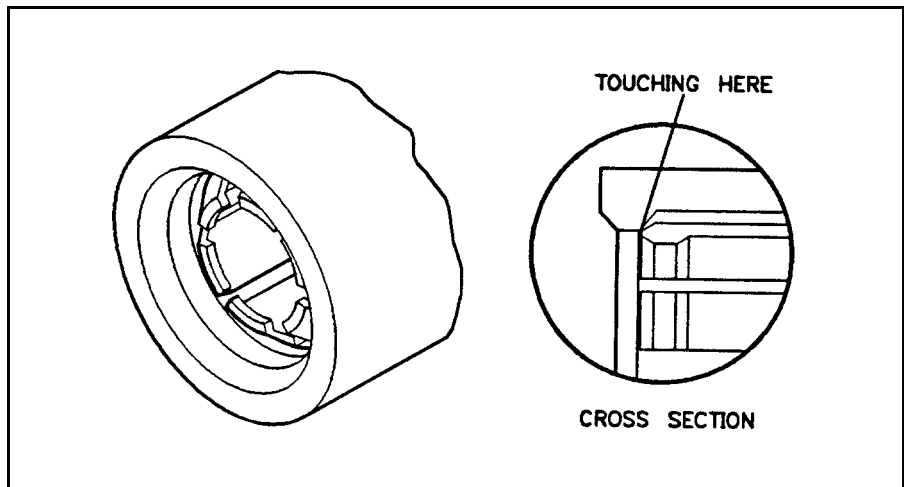

Figure 2-15. Inspecting the Installation
6. Under magnification, visually inspect the assembly and make sure the inner contact is properly installed (see Figure 2-15).